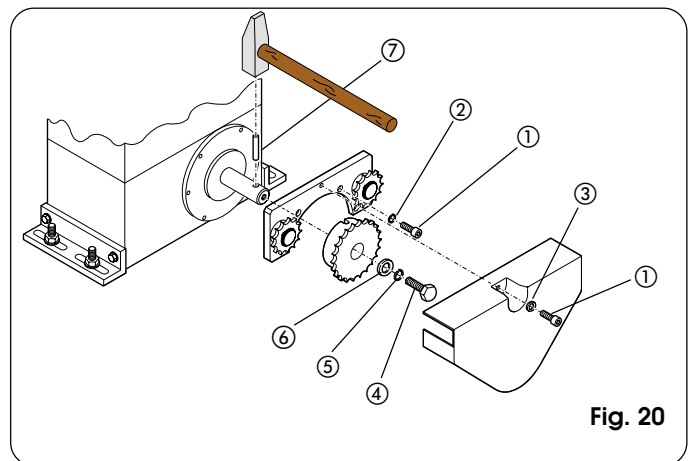
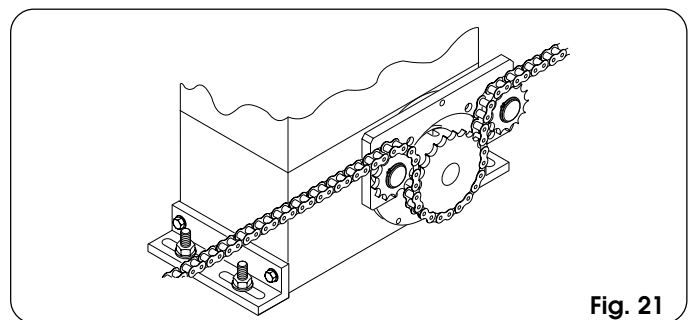

Fig. 20
Fig. 21
4.5.2. MOD. 746 ER RF (Figs. 20 - 21)
- 1) Insert the spring pin (7) on the shaft, using a hammer.
- 2) Fit the idle transmissions bracket on the gearmotor flange, using the four screws (1) (M5 x 12) and the appropriate washers (2), in the kit as shown in Fig. 20.
- 3) Fit the chain pinion on the shaft, making the pinion seats coincide with the spring pin and tighten the screw (4) and the appropriate washers (5) and (6).
- 4) Pass the chain as shown in Fig. 21 and install the housing with screw (1) and washer (3) as in Fig. 20.